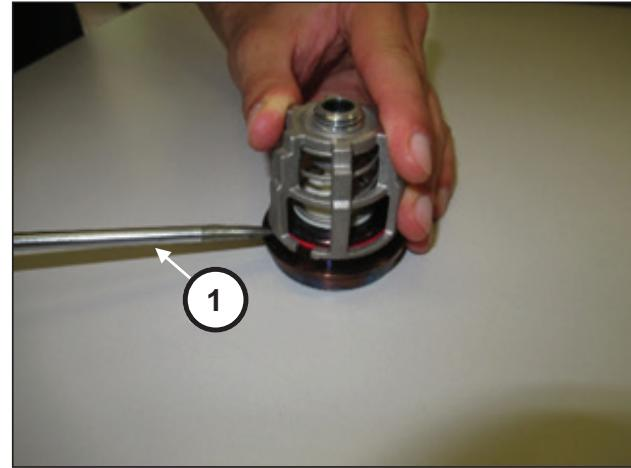

Fig. 97
Disassemble the suction and outlet valve units by levering with simple tools (pos. ①, Fig. 97).